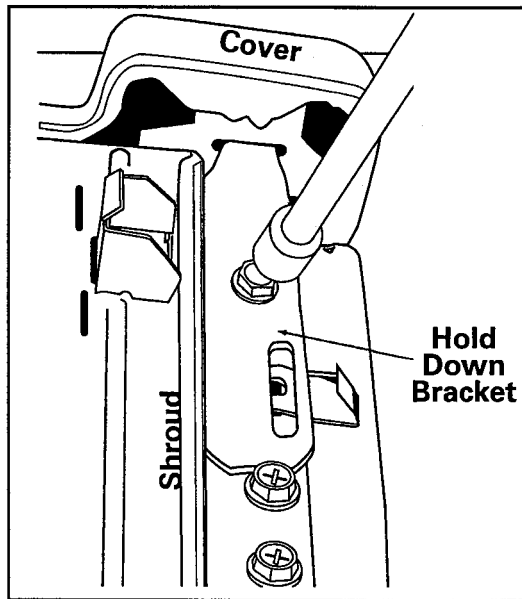

Figure 5-4
- Locate and remove two 5/16" hex head screws securing the two hold down brackets for the top cover. (See Figure 5-4)